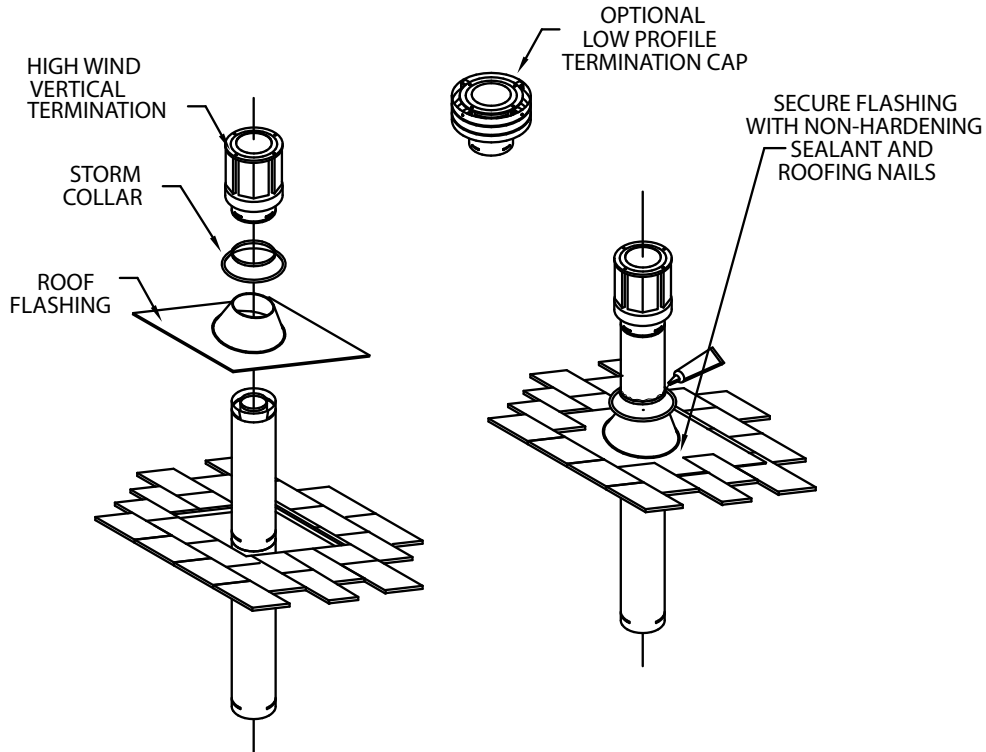

Figure 18
(3) Wherever possible, use 45° Elbows instead of 90° Elbows. The 45° Elbow offers less restriction to the flow of flue gases and intake air.
Step 7. Slip the Roof Flashing over the Pipe Section(s) protruding through the roof. Use a non-hardening sealant between the Roof Flashing and the roofing to prevent water leakage. Secure the base of the Roof Flashing to the roof with roofing nails. Ensure the roofing material overlaps the top edge of the Roof Flashing (Fig. 18). Verify that you have at least the minimum clearance to combustibles at the roofline and in the attic.
Step 9. Slip the Storm Collar over the Pipe Section, and push it down to the top of the Roof Flashing (Fig. 18). Use non-hardening sealant between the Storm Collar and the Pipe Section.